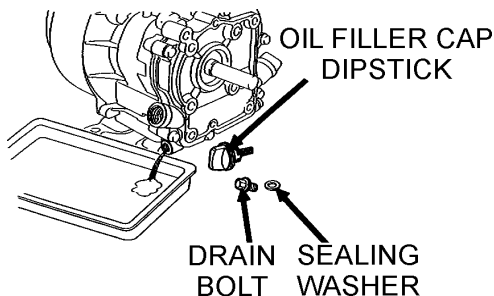

Figure 19. Engine Oil (Draining)
- Drain the engine oil when the oil is **warm** as shown in Figure 19.